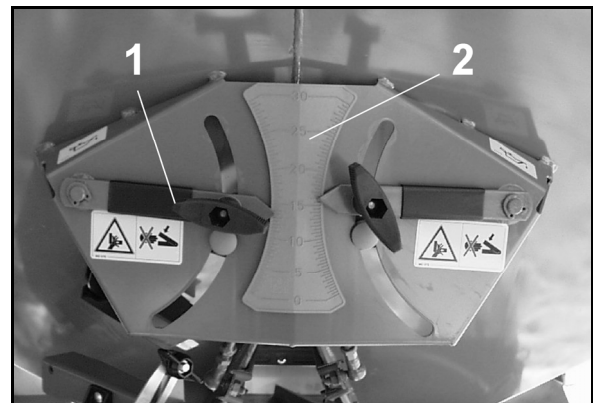

Fig. 81
7. For **boundary spreading**, move the slider position of the setting lever (Fig. 81/1) on the left side of the machine back by two scale intervals (Fig. 81/2).